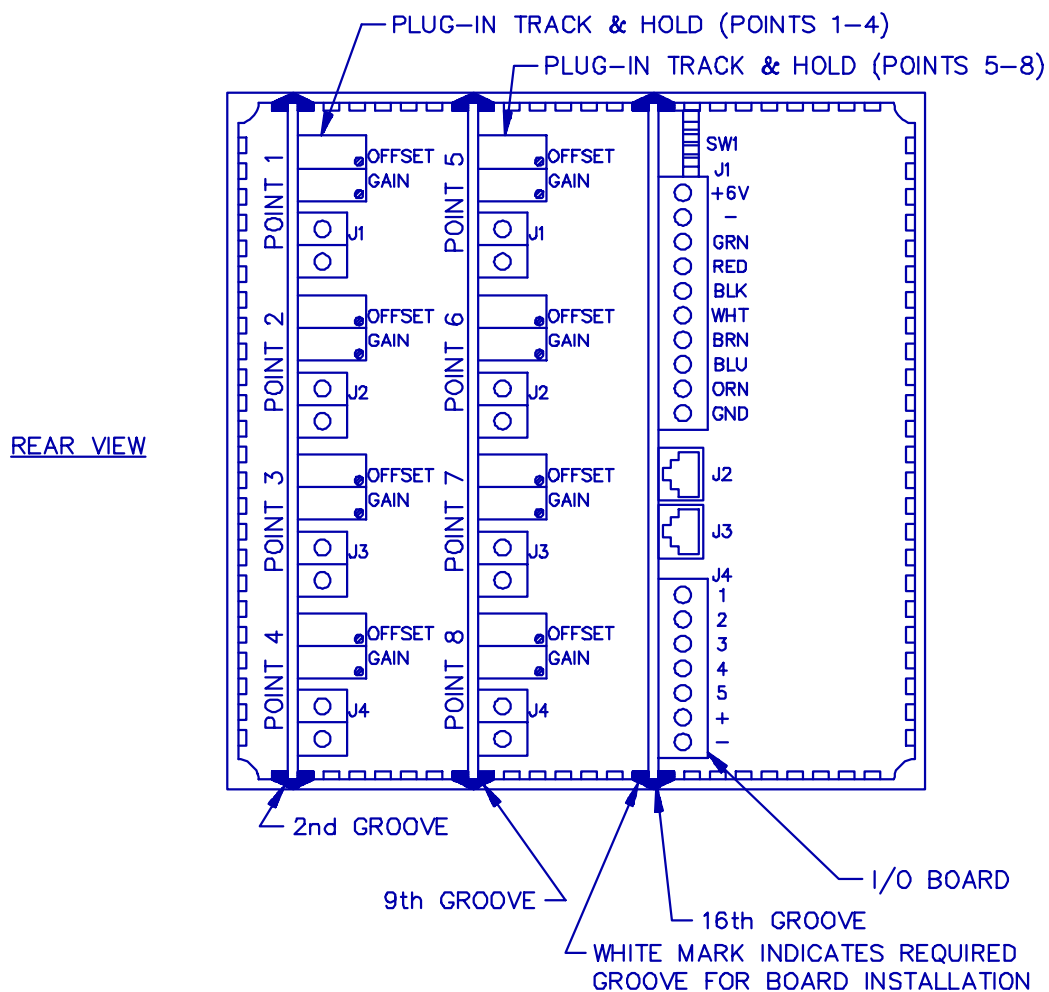
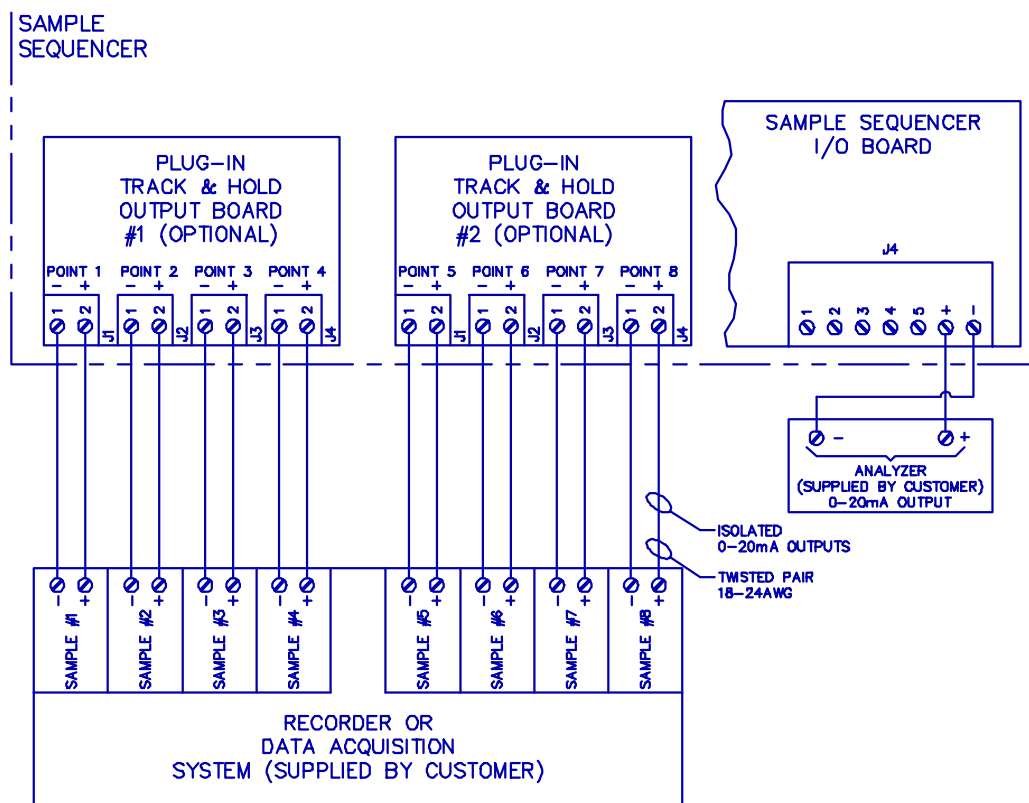

Figure 18 - Sample Sequencer Assembly with Plug-in Track & Hold
Figure 23 - Recorder Connections Using Plug-in Track & Hold Output Board(s)
**Plug-In Electronic Track & Hold Boards (6-02499E)** are installed in Sample Sequencer (See Figure 18) to output individually isolated 0-20 mA signals to recorders or other data acquisition systems. One may use one or two plug-in electronic track & hold boards. Figure 23 shows how to connect the board. **Note: If you are retrofitting a Plug-In Track & Hold to an existing Sequencer in the field, see Appendix G.** The plug-in track & hold may be configured to provide a dual output of one point. (See Appendix F)
### **Wiring to the Plug-In Track & Hold Board - Figure 23**